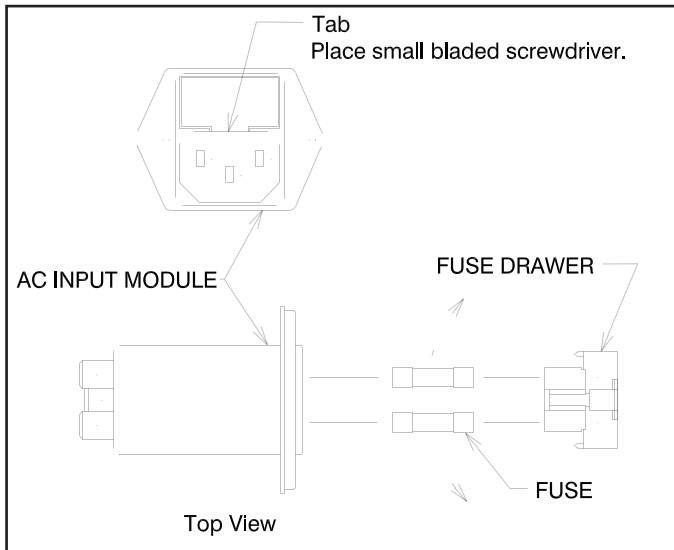

FIGURE 7
5.1.1. Unplug the power cord from the AC power input module. Referring to Figure 7, locate tab. With a tool similar to a small common screwdriver placed under tab, pry fuse drawer out. Remove the drawer by pulling it out with your fingers.
5.1.2. To remove fuses from fuse drawer, tilt fuses in direction of arrows as shown in Figure 7. Examine the fuses, replace as necessary.